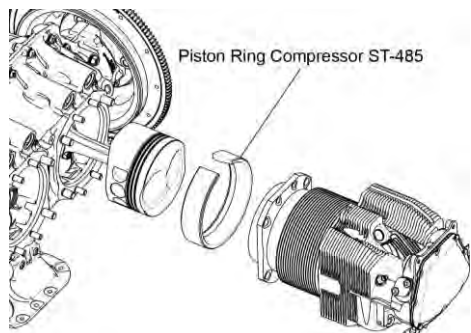

Figure 27
- F. Use the Piston Ring Compressor (ST-485) to install the cylinders (Figure 27) as follows: